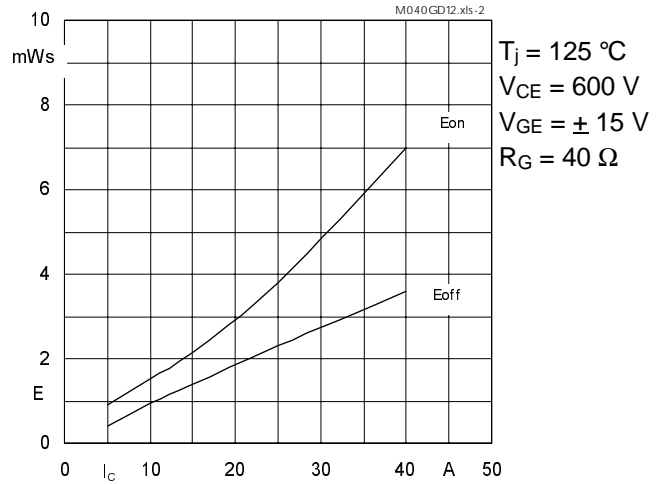

Fig. 2 Turn-on /-off energy  $= f(I_C)$
- 5) See fig. 2 + 3; RGoff = 40 Ω